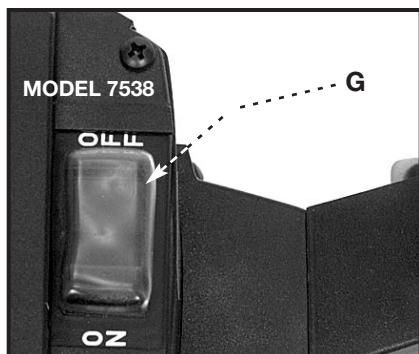

Fig. 12
**MODEL 7538** is equipped with a thermal-type circuit breaker (G) Fig. 12, located in the top of the motor. This circuit breaker will shut the motor “OFF” if the overload is prolonged.